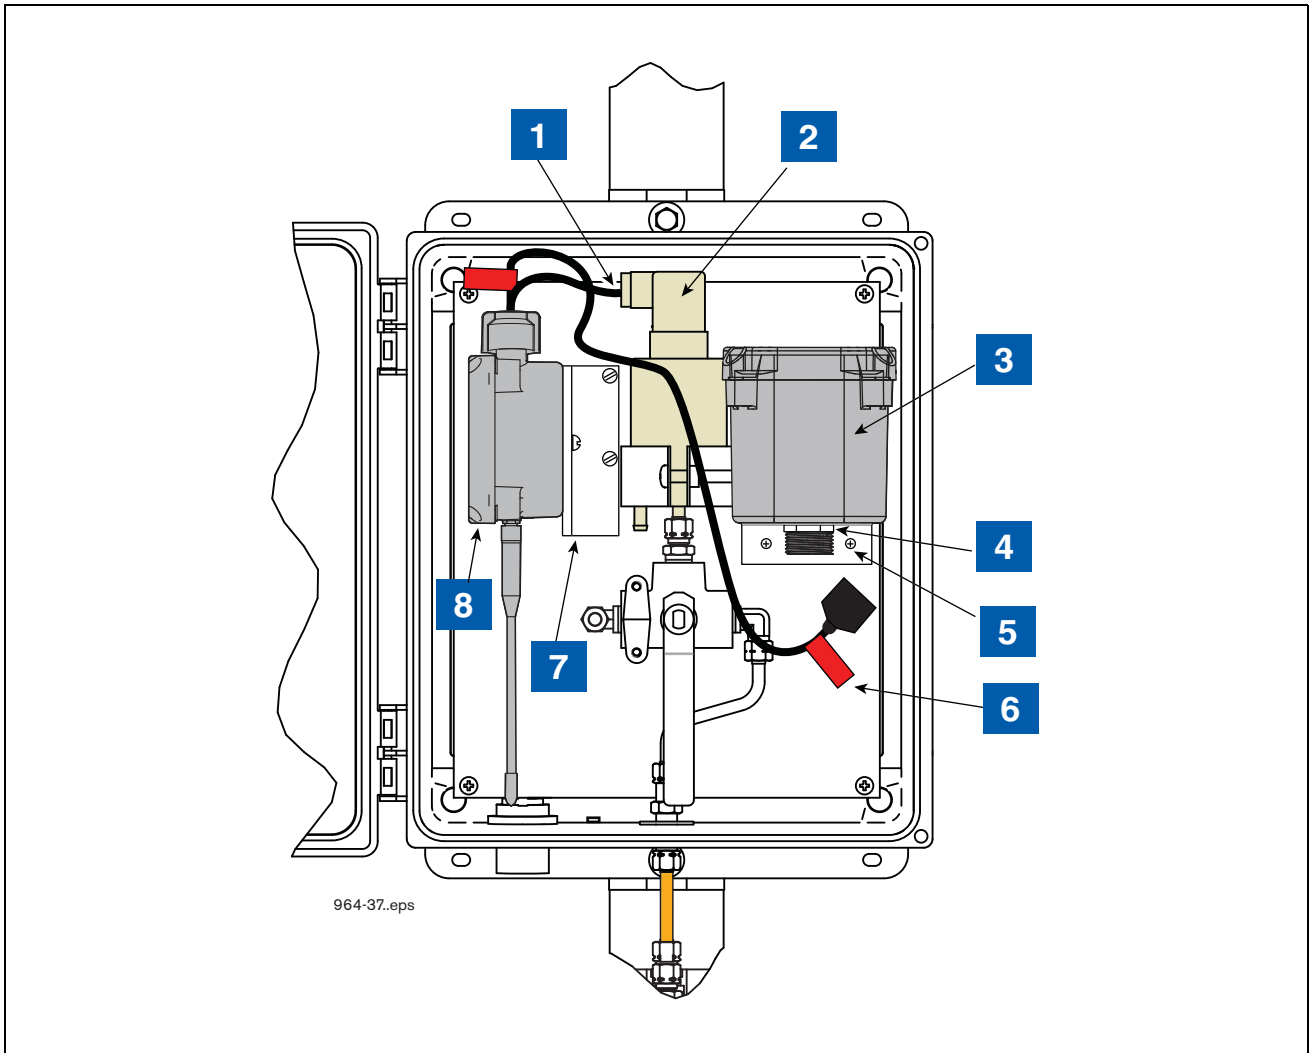

Figure 19. Example VRPS Transmitter/battery Pack Installation In The Universal Enclosure
5. Get the thin hex nut from the kit and screw it onto the battery housing cable connector threaded fitting until snug (see item 4 in Figure 19).
6. Attach the battery housing/bracket assembly to the back mounting surface of the Universal Enclosure using two #10 taptite screws from the kit (see item 5 in Figure 19).
#### LEGEND FOR NUMBERED BOXES IN Figure 19